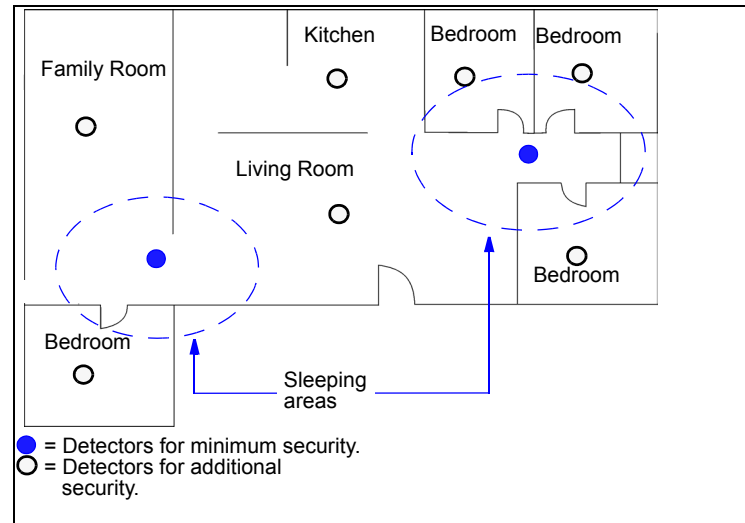

Figure 5: Locations for Multi-floor Residence
- On every floor of a multi-floor home or apartment as shown in Figure 5 on reverse.
- Areas with poor ventilation or obstructions that may prevent smoke from reaching the detector. These can be the top of a peaked (sloped) roof or ceiling (Figure 5 on reverse) and a partially or completely closed bedroom door.